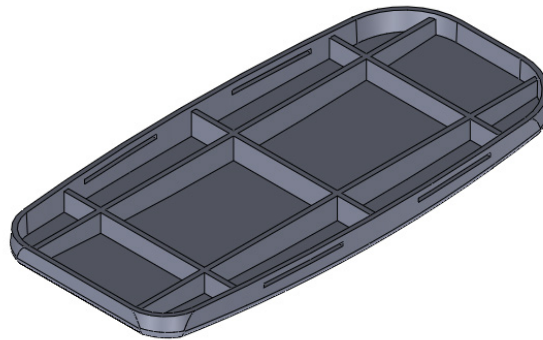

Figure 21-59 Model of the cover
- Create a new SOLIDWORKS document in the Part mode and using the standard modeling tools, create the model of the cover, refer to Figure 21-59.
2. Using the standard modeling tools, create the model of the cover. The completed model of the cover is displayed in Figure 21-59.